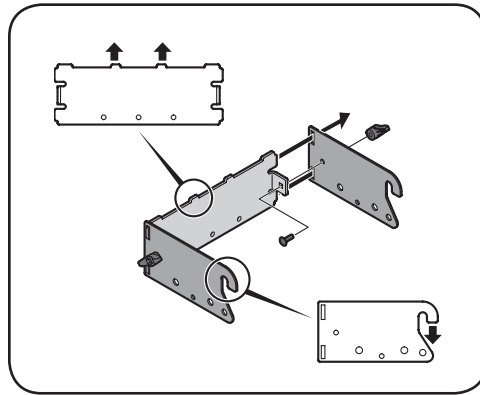

Figure 4-3
**NOTE:** The hooks on the side brackets should point downwards and the tabs on the rear plate point upwards as shown in Figure 4-3.